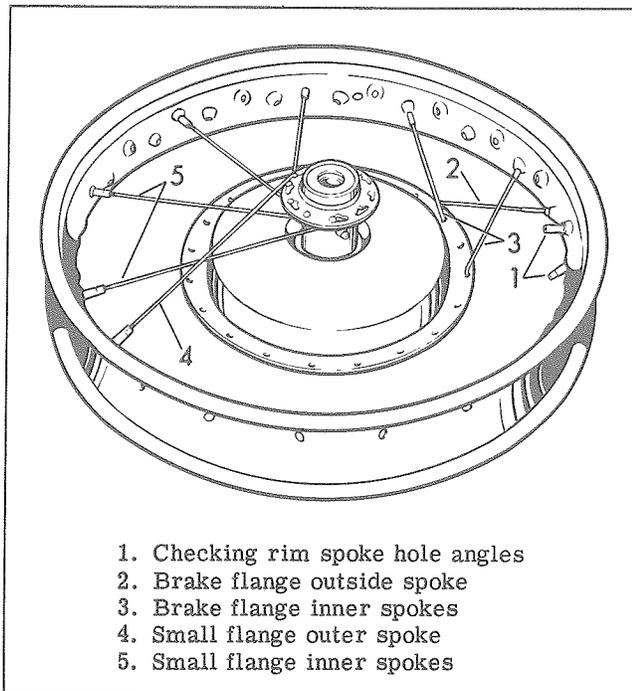

Figure 2C-14. Lacing Front Wheel (1963 and Earlier)
3. Turn hub over. Insert spokes (5) from the outside of hub, filling the remaining 10 spoke holes of the brake flange.
5. Swing the 10 outside spokes (4) clockwise.
6. Swing the 10 inside spokes (5) counterclockwise.
7. Place the rim over the hub with the spoke holes having the most acute angle facing down. Check by inserting nipples in spoke holes as shown in (1, Fig. 2C-14).
8. Cross a brake flange outside spoke (2), under two inner spokes (3) and insert in lower row of holes in rim that angle in same direction as spokes. Start nipples on spokes as they are inserted in rim.
10. With hub in same position, insert ten spokes (6, Fig. 2C-13) in small flange (upper flange as positioned on workbench) elongated holes, with head of